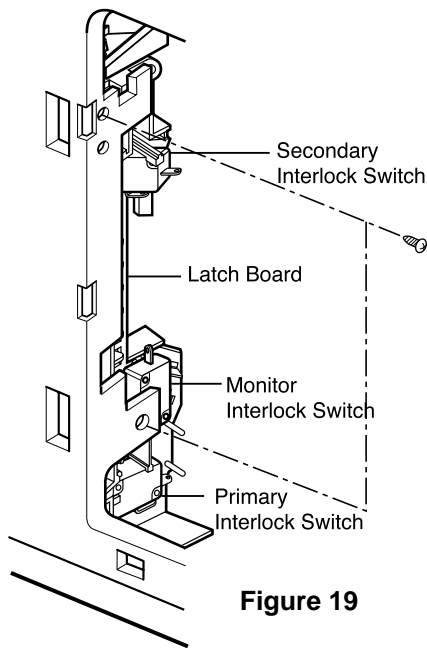

Figure 19
- (1) Set the microwave oven on its side so that you can see the latch board and the switches, as shown in Figure 19.